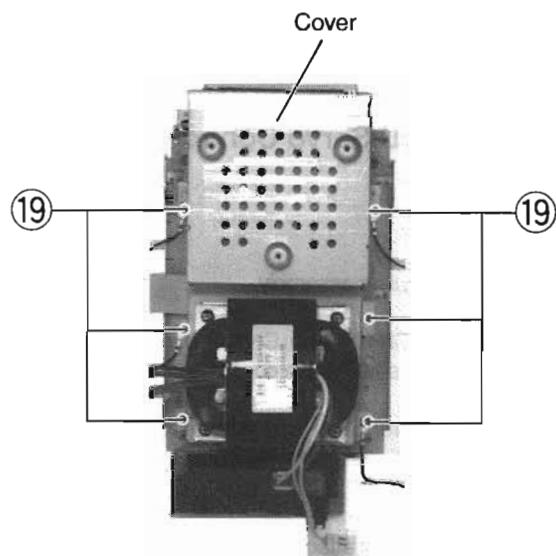

Fig.31
■ Removing MD mechanism assembly (see Fig.31 and 32)
1. Remove the six screws ⑯ attaching the cover.
2. Remove the two screws ⑰ attaching MD mechanism assembly.